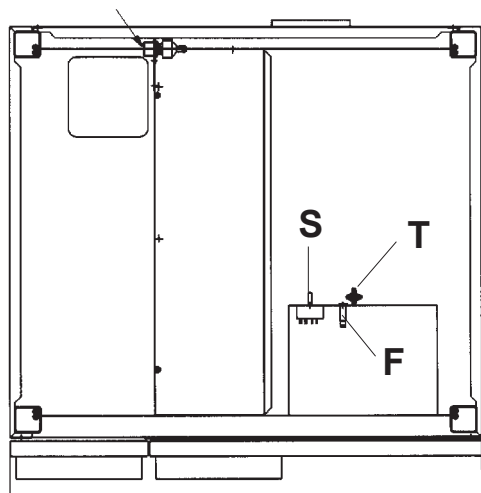

Fig. 3
7.1 Safety thermostat for heated chamber (fig. 3)
7.2 The appliance is equipped with **one fuse "F"** (fig. 3) (5AF, rapid action with an interruption power level of 35A) protecting
- Energy regulator is damaged or must be adjusted, by turning the spindle "S" (fig. 3).